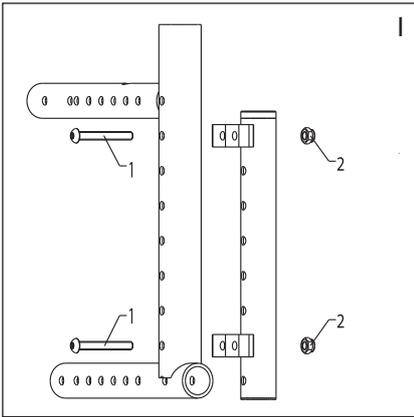

Abb. 1
Mount the receiver tube with the two screws (Fig. 1, item 1) on the inner side of the posterior frame part. Tighten the nuts (Fig. 1, item 2) with a torque of 9 Nm.